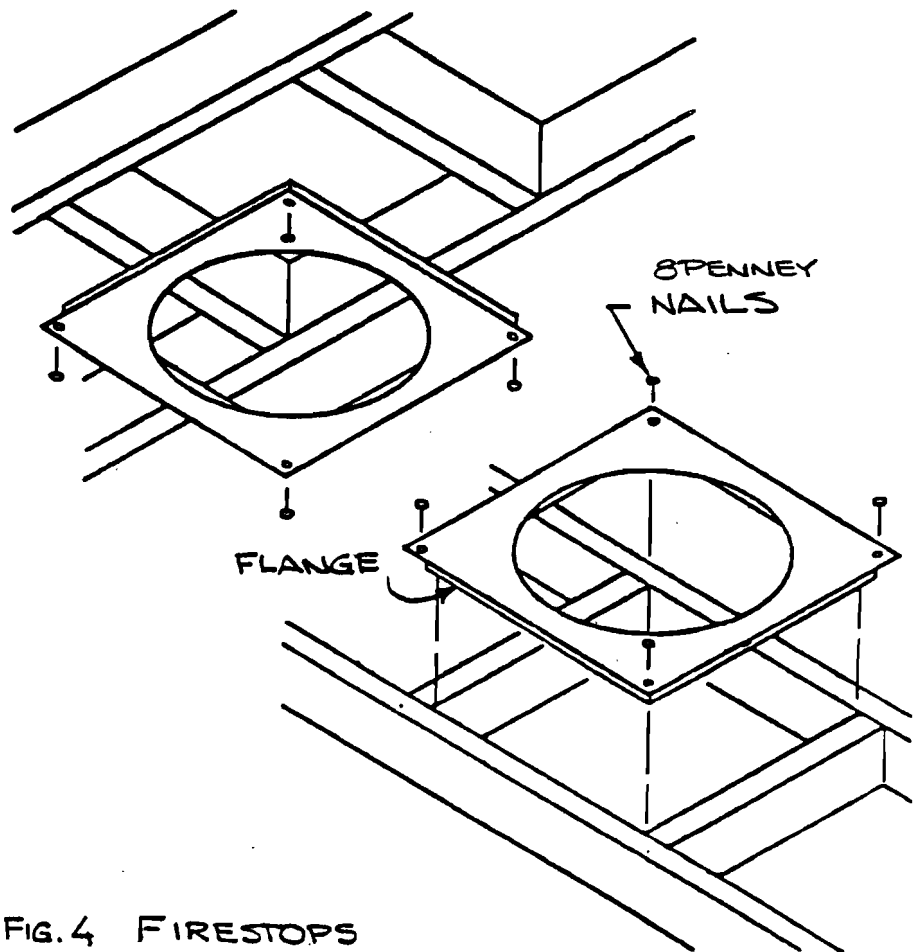

FIG.4 FIRESTOPS
- Step 3: After the hole is cleared, place the firestop spacer over this opening. Refer to Fig. 12, if a living space exists above the floor penetrated, the firestop secures to the ceiling from below. In an attic space the firestop secures to the attic floor. If the flanges of the firestop do not fit into the opening - enlarge the opening. Secure the firestop with four 1 1/2 inch nails (See Fig 4).